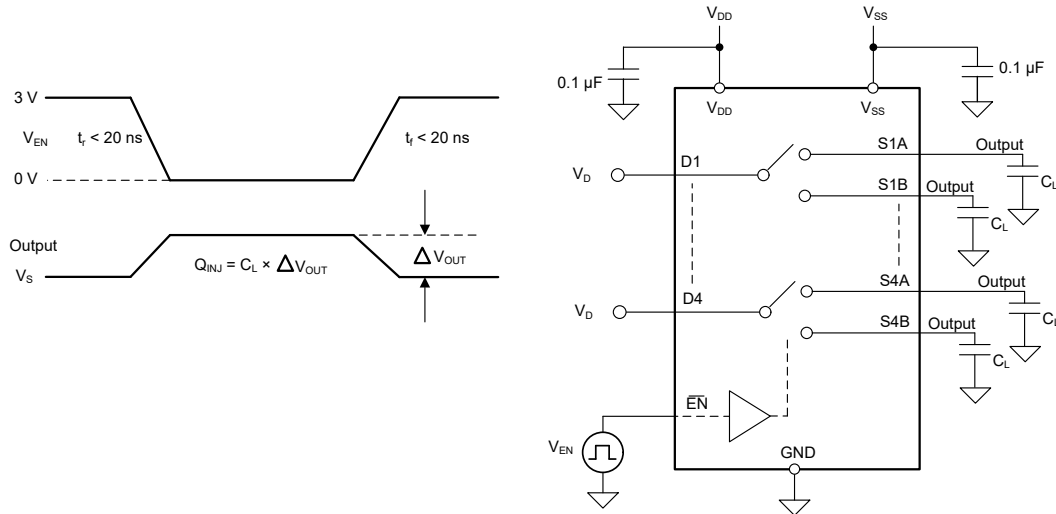

Figure 7-9. Charge-Injection Measurement Setup
The TMUX6234 has a transmission-gate topology. Any mismatch in capacitance between the NMOS and PMOS transistors results in a charge injected into the drain or source during the falling or rising edge of the gate signal. The amount of charge injected into the source or drain of the device is known as charge injection, and is denoted by the symbol  $Q_{INJ}$ . Figure 7-9 shows the setup used to measure charge injection from source (Sx) to drain (D).